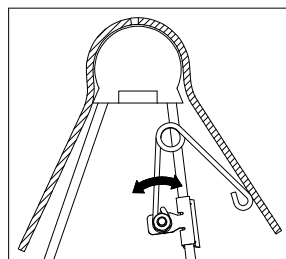

Figure E2: Cutaway view of driver side pivot arm and saddle.
2. Adjust the resting angle of your coupler plate by rotating the spring on the driver side pivot arm. Pulling the top of the spring away from the cab will increase the angle of the coupler plate. Set the angle of the coupler so that head will tilt away from the cab when coupling, see Figure E2. Tighten the 1/4" nut once the springs orientation is set.